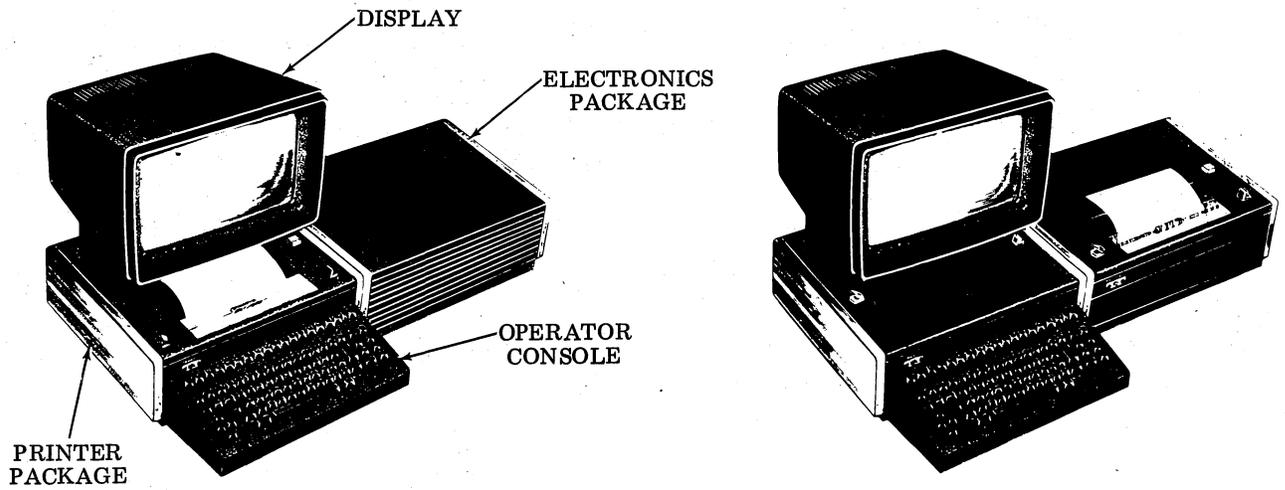

Figure 2 - DATASPEED 40 KDP Arrangements — Table Mounted
2.04 The KDP (Figures 2 and 3) has all the features of the KD, and also includes a printer with related logic. The printer can be used to provide hard copy of the transmitted or received data.